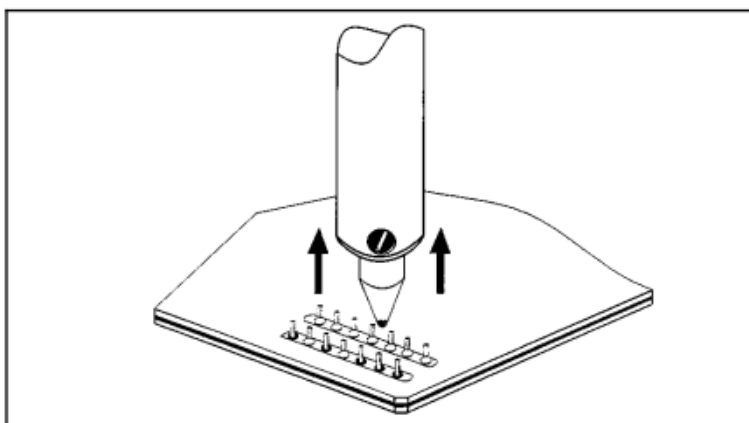

Figure 6 Lift Handpiece
- (i) Lift tip from lead, hold vacuum for an additional 3 seconds to clear all molten solder from heater chamber. (See Figure 6.)